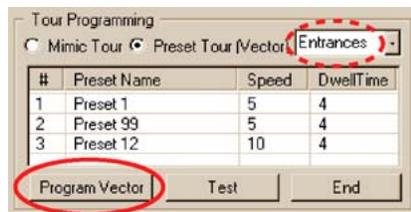

Fig. 5. Location of the **Program Vector** button.
- **Rename tour.** You have the option of renaming the preset tour. Click inside the box next to **Preset Tour (Vector)**. Type a name. The name is saved when you next click the mouse. See figure 5, below: "Entrances" has replaced the default name of "Vector 1".